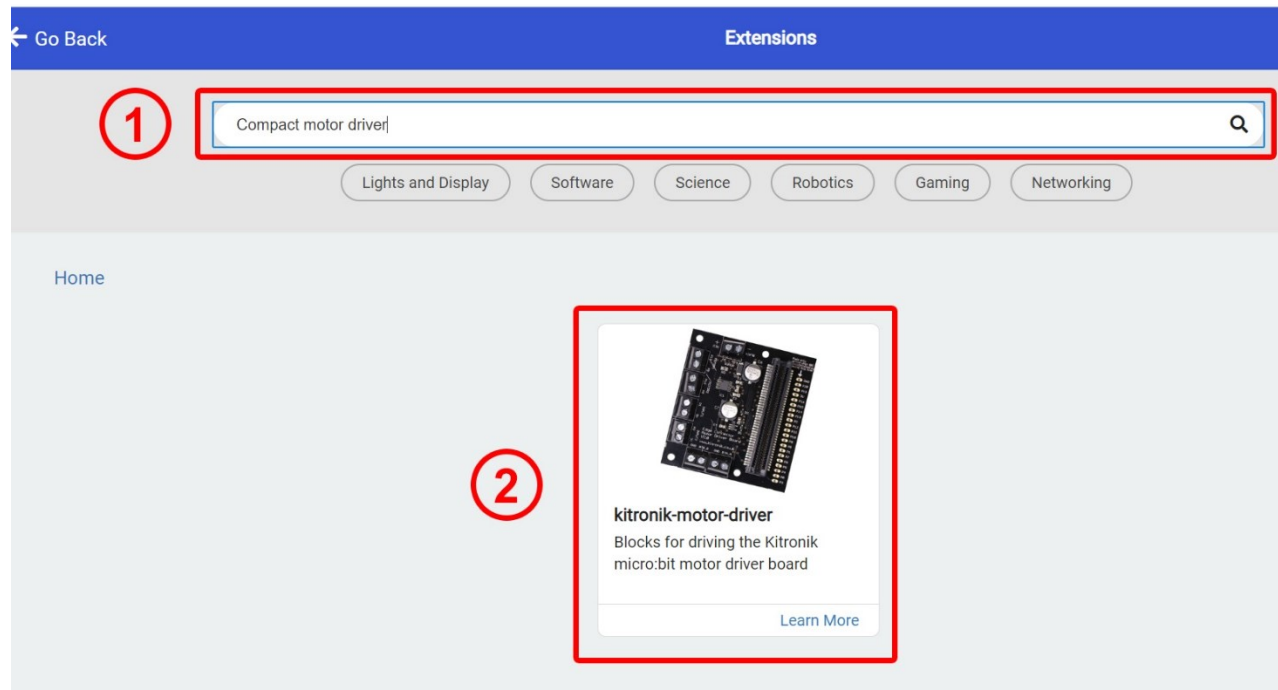

Figure 1: Finding the extension for the Kitronik Compact motor driver
Open the Makecode environment (<https://makecode.microbit.org/>) and create a New Project. To program the Kitronik Compact Motor Driver you need to add the corresponding extension. Therefore, click on the Extensions (+) menu. On the search bar (Figure 1, 1) type “Compact motor driver” and press enter. The corresponding extension will appear (2). Click on it to add the corresponding programming blocks to the project.